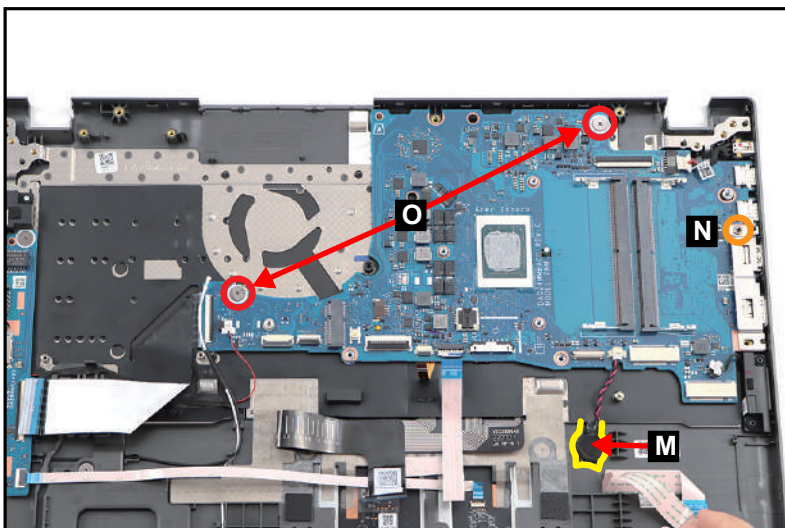

Figure 3-64. Mainboard Removal
12. Pry to detach the adhesive tape underneath the RTC battery (M) (Figure 3-64).
13. Remove one (1) screw (N) securing the right IO bracket. Then remove another two (2) screws (O) securing the mainboard (Figure 3-64).